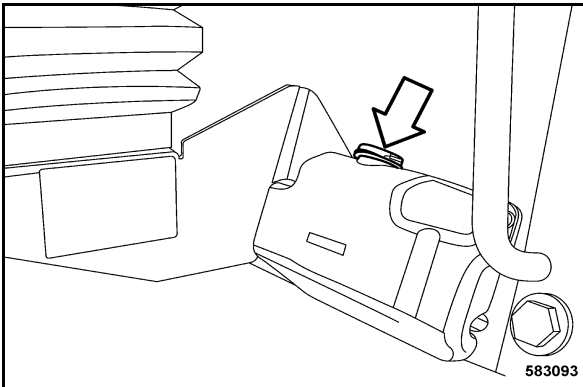

Fig. 198
- Check the fluid level in the tank (Fig. 198), top up if necessary.